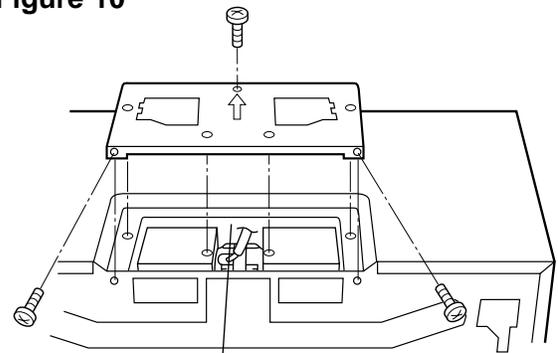

Figure 12 Wire Box
4. Put the lead wire into Wire Box. See Figure 12.
5. Replace the Fan Cover Bracket by sliding it into the slits in the same direction as the arrow on the Fan Cover Bracket. Make sure the fan blades are visible through the rear openings in the oven before proceeding. Attach Fan Cover Bracket to unit with 3 screws, which were removed in Step 1 above. See Figure 12. The Hood Fan Unit is now rotated for horizontal exhaust operation.
5. Replace the Fan Cover Bracket by sliding it into the slits in the same direction as the arrow on the Fan Cover Bracket. Make sure the fan blades are visible through the top openings in the oven before proceeding. Attach the Fan Cover Bracket to unit with 3 screws, which were removed in Step 1 above. See Figure 12 on page 5. The Hood Fan Unit is now rotated for vertical exhaust operation.
6. Attach the Exhaust Damper Assembly ⑧ to the fan cover on the top of the outercase cabinet after mounting the oven. To attach the Exhaust Damper Assembly, refer to MOUNTING OVEN TO THE WALL, Step 7 on page 7.